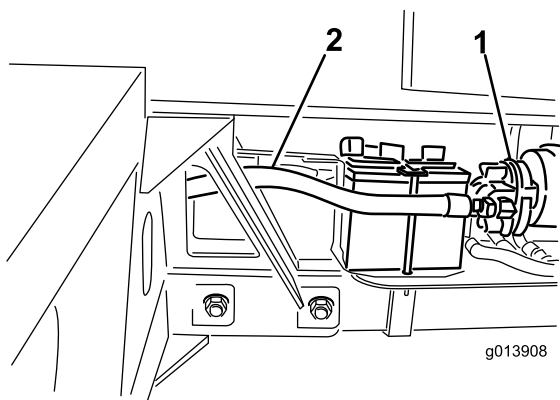

Figure 12
38. Connect hydraulic hose #4 to the suction side of the hydraulic pump (Figure 12).